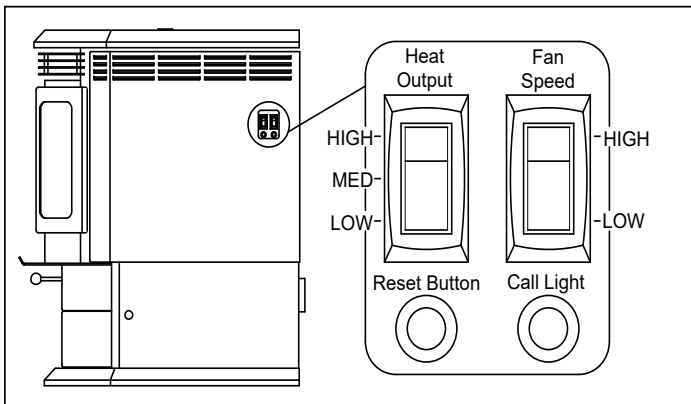

Figure 10.1
The appliance is like most modern furnaces; when the thermostat calls for heat, your appliance will automatically light and deliver heat. When the room is up to temperature and the thermostat is satisfied, the red call light will go off and the appliance will shut down (**Figure 10.1**).
3. Locate the heat output control switch mounted on the right side. Switch it to the high setting by pushing the top of the switch in, then adjust the thermostat to its highest setting. The red call light located on the upper right corner of the right side panel will be on. This indicates the thermostat is calling for heat (**Figure 10.1**).
3. Occasionally the appliance may run out of fuel and shut itself down. When this happens, the red call light will be on (**See Figure 10.1 on page 10**). To restart it, fill the hopper and press the reset button (**Figure 10.1 on page 10**). When you press the reset button the red call light will go out. Release the button and the light will come back on. You should see a fire shortly. If not, follow **Starting Your First Fire** on **page 10**.